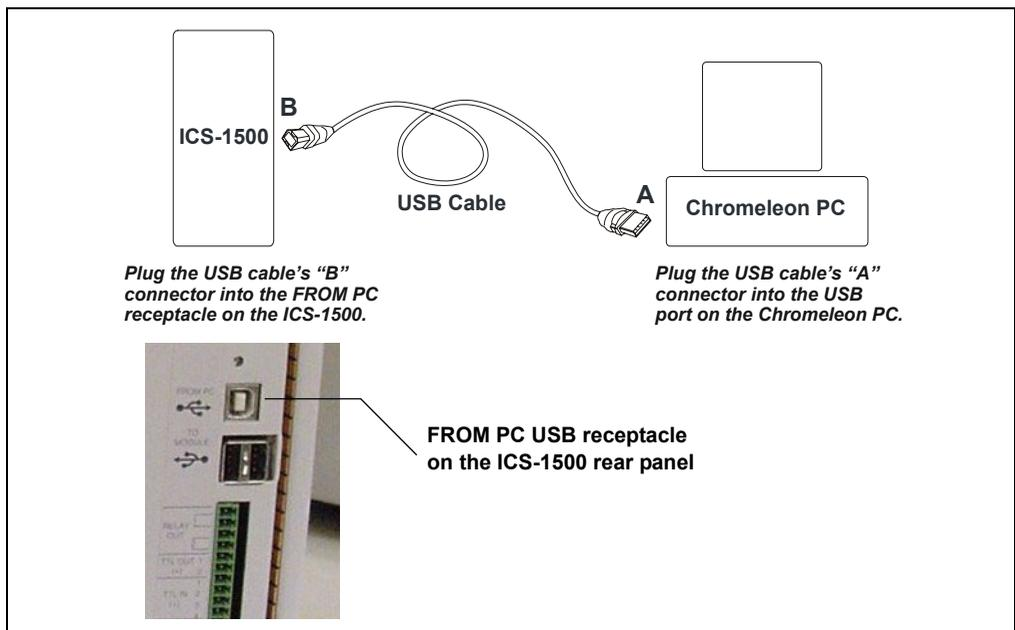

Figure B-7. Example Connections: One ICS-1500 Connected to the Computer
2. Plug the cable's "A" connector into a USB port on the Chromeleon PC and plug the cable's "B" connector into the USB receptacle (labeled **FROM PC**) on the ICS-1500 rear panel (see Figure B-7).